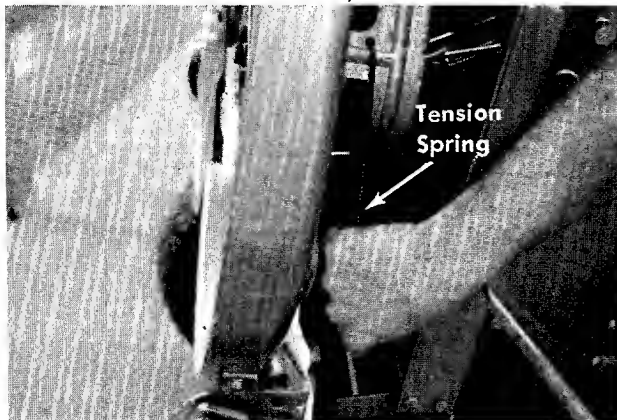

FIGURE 28. REMOVING TENSION SPRINGS
Step 5. Unhook the tension springs on both sides of the deck. See figure 28.